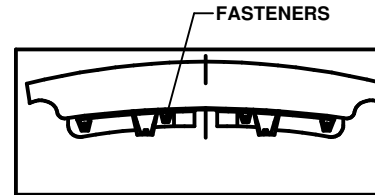

FIGURE 1
a. Remove (2) fasteners from the rear of the vehicle. (See Figure 1)